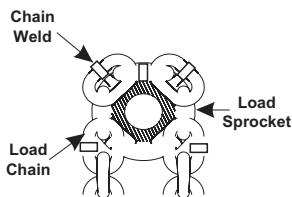

fig.3
5. Install chain by running a piece of wire or string between chain guide roller and load sprocket and then over and around the load sprocket. Tie the chain to the wire or string and pull it into the hoist so that the first link is standing on edge in one of the slots of the load sprocket, with the weld away from the sprocket (see fig.3). Operate hoist in the UP direction, pulling about a foot of chain around the sprocket and out the hoist. Remove the cotter pin from the slack end pin and slide the pin to one side. Pull the end of the chain under the chain guide roller and hook the last link over the slack end pin, being sure the chain is not twisted. Slide the slack end pin back into position and install the cotter pin through it.